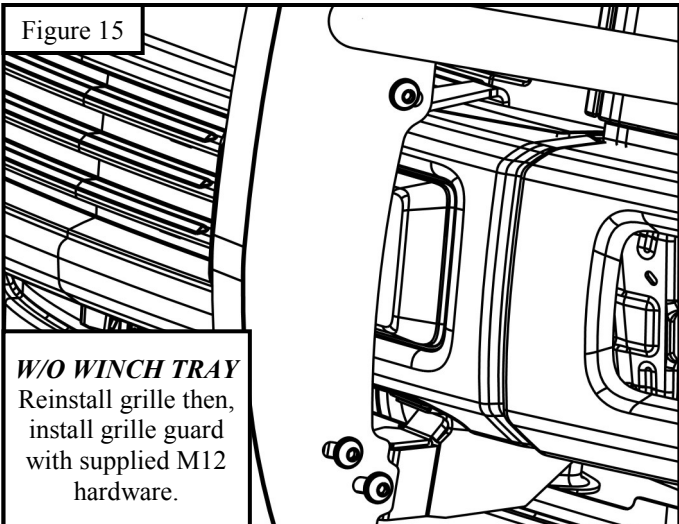

Figure 15
10. With assistance hold the Grille Guard up to the previously installed brackets. Loosely attach the Grille Guard to the brackets using the supplied M12 hardware, see Figure 15 and 16.